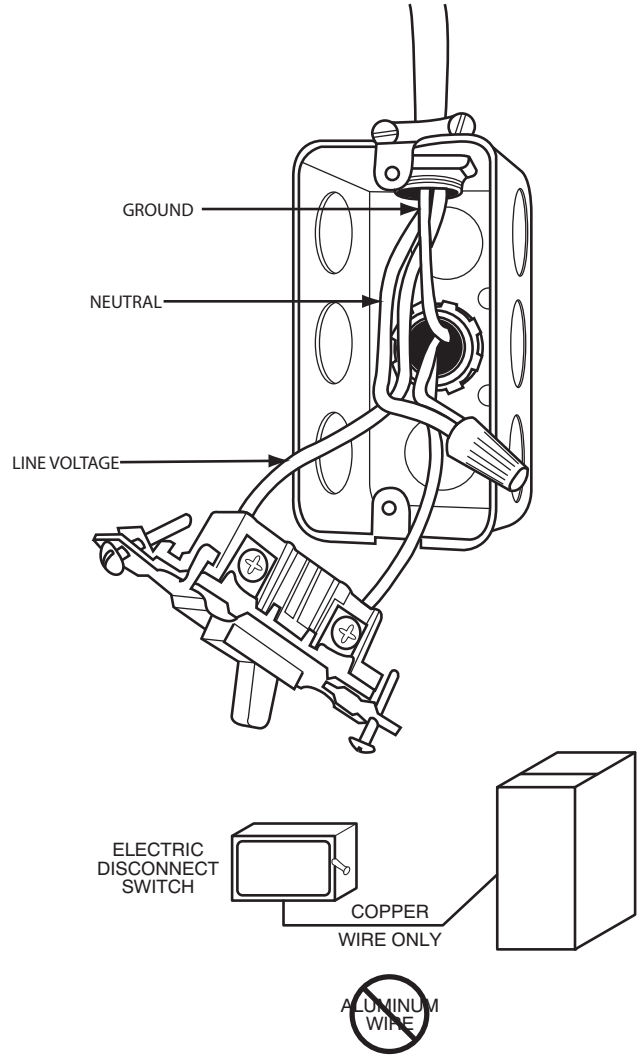

Fig. 32 - Field-Supplied Electrical Box on Furnace Casing
Do not connect aluminum wire between disconnect switch and furnace. Use only copper wire. See **Fig. 32**.
1. Fasten a field-supplied external electrical box to the outside of the casing by driving two field-supplied screws from inside electrical box into casing. See **Fig. 32**.
9. Complete external disconnect wiring and installation. Connect line voltage leads as shown in **Fig. 32**. Use best practices (NEC in USA for wire bushings, strain relief, etc., CANADA: Canadian Electrical Code CSA C22.1)